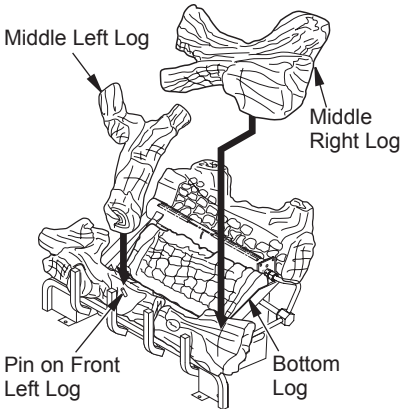

Figure 25 - Installing Top Logs
5. Place middle right log over front right and bottom logs as shown in Figure 25, page 17. Be sure hole in middle right log seats over pin in bottom log.
6. Place middle left log over front left and bottom logs as show in Figure 25. Be sure hole in middle left log seats over pin in front left log.